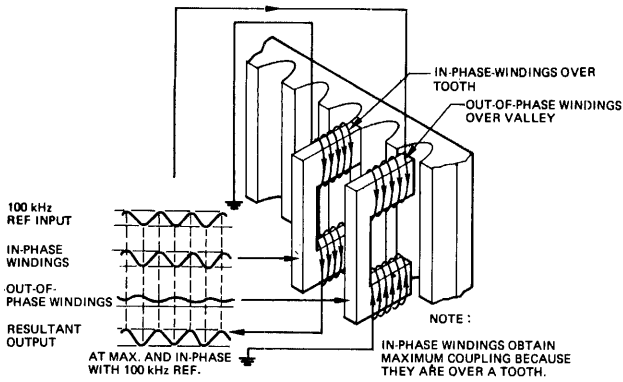

Figure 3-61. In-Phase Windings Over a Tooth
- If the in-phase windings and the out-of-phase windings are equally close to a tooth, in-phase coupling and out-of-phase coupling are equal and the resultant output will be minimum (null). Figure 3-61 through 3-63 illustrate the three conditions